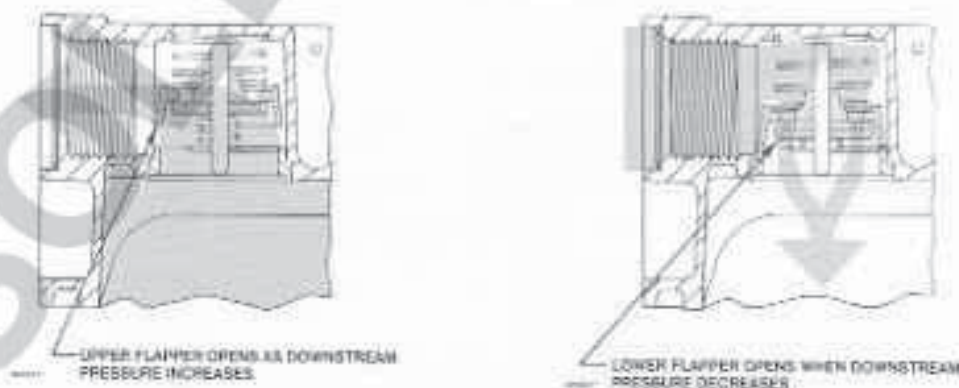

Figure 2. Two-Way Stabilizer Vent Valve Action Under Fast-Changing Loads.
- **Excellent Shock Characteristics and High Speed of Response**—The two-way stabilizer vent valve (figure 2) reacts quickly to minimize sudden shock caused by rapid load changes, thus providing a damping effect that enhances stability.